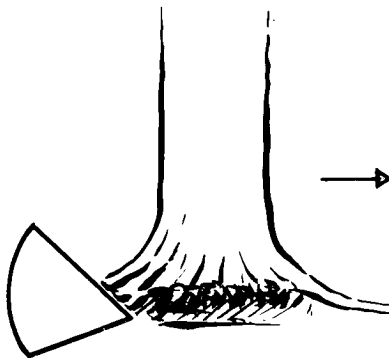

Figure 54
2. Dig a trench to the side of the trunk directly opposite the proposed line of fall. Figure 54. This will enable the Teraload'r to loosen the tree and cut away more of the root structure and also allow the machine to be below and clear of any upturning roots which might cause possible injury to the operator or damage to the machine.